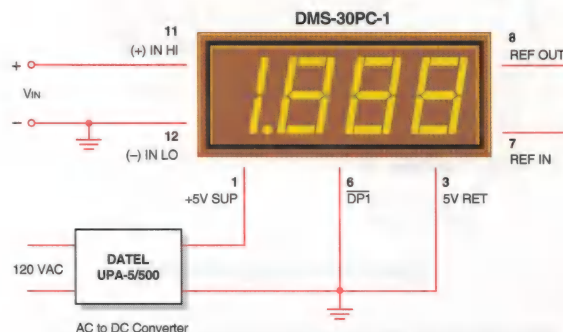

Figure 2. Single-Ended Input Configuration
1. **Single-Ended Input Configurations:** True single-ended measurements can be made with any DMS-30PC meter. The circuit of Figure 2 avoids problems normally associated with ground-loop currents. Separate ground runs should be used for 5V RETURN (pin 3) and (–) INPUT LO (pin 12). This will ensure that large LED currents will not flow in the wiring that connects VIN to (–) INPUT LO (pin 12). Ground-loop currents can cause unstable readings.